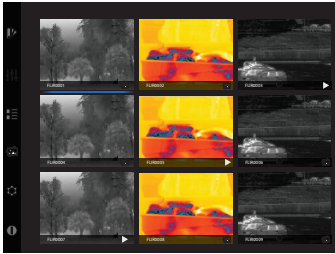

Figure 1
1. Use the scroll buttons ▲ ▼ to select the Media Gallery  as in fig. 1 below.